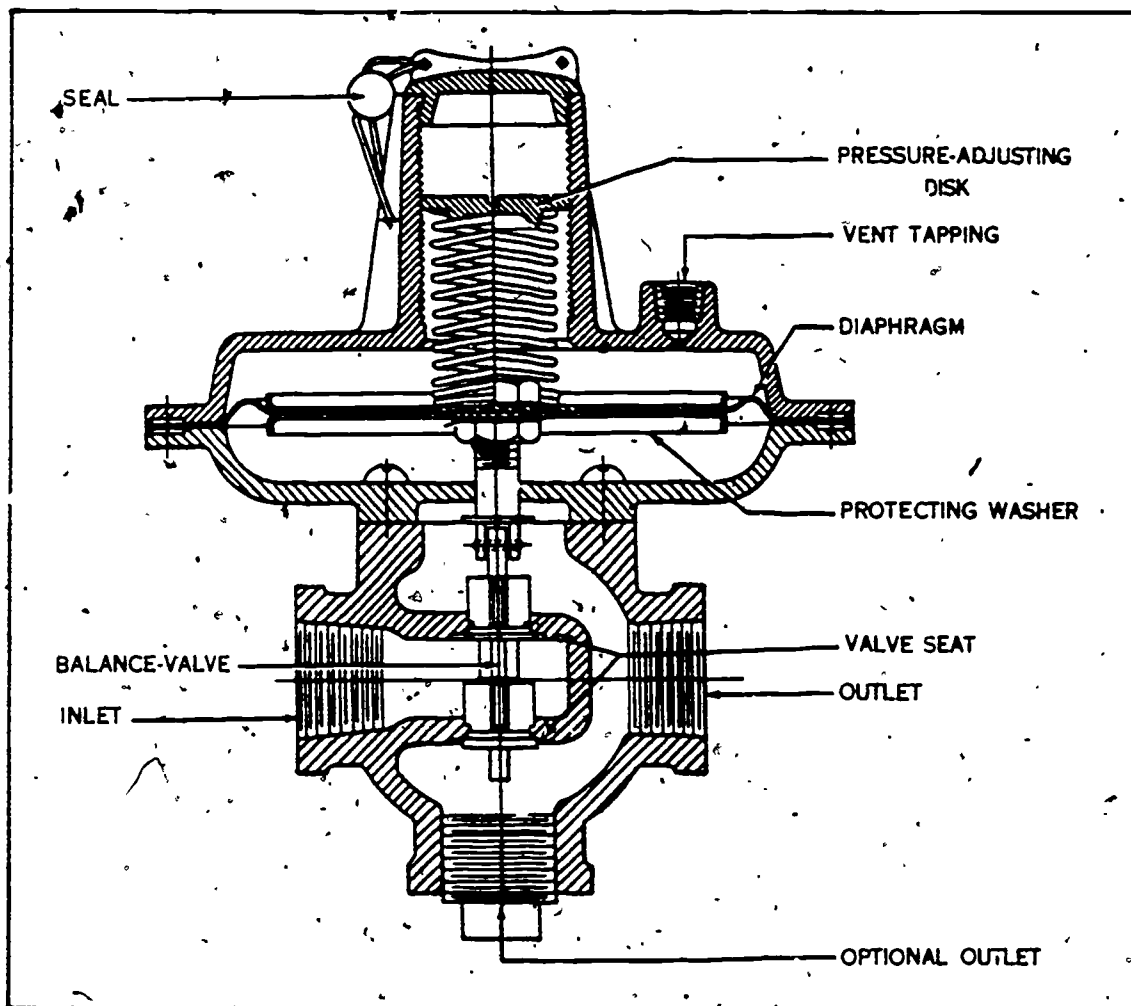

Figure 1-55 Pressure-reducing valve
d. Pressure-reducing valve. The pressure-reducing valve, shown in figure 1-55, maintains a desired air pressure regardless of the pressure from the source of supply. The pressure spring holds the spring down off its seat when the air pressure is low. An air pressure above the desired amount will force the diaphragm up. This action allows the piston spring to reseal the piston and stop the flow of air until the pressure drops.